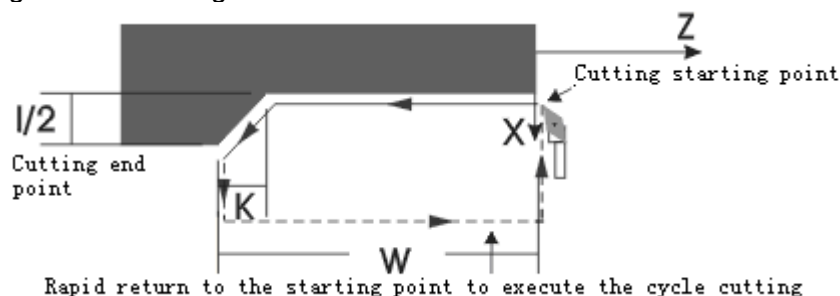

Fig. 4-24
1) G92 axial straight thread: as Fig. 4-24